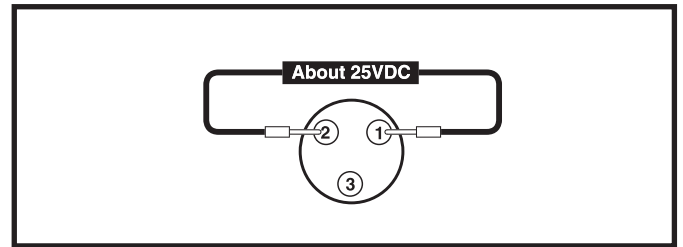

Figure 15. Connector 1a
1. Measure voltage across pin 1 (B+) and pin 2 (B-) on connector 1a. **See figure 15.**
- If your multimeter indicates more than 22VDC, then replace the VSI controller (1) and retest the system.